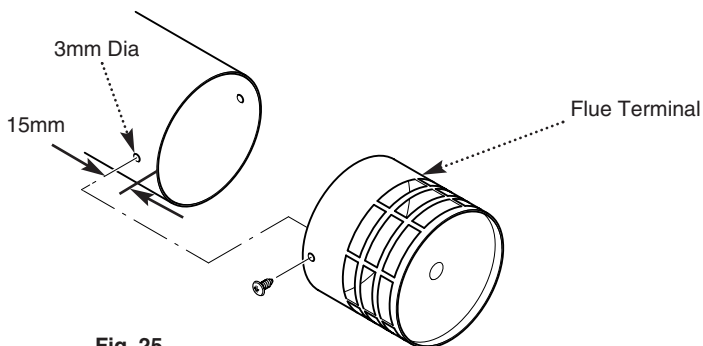

Fig. 25
14. Drill two 3mm holes 15mm from the end of each final length of flue duct. The holes must be diametrically opposite each other. Using the screws supplied attach the terminals to the ducts (Fig. 25).